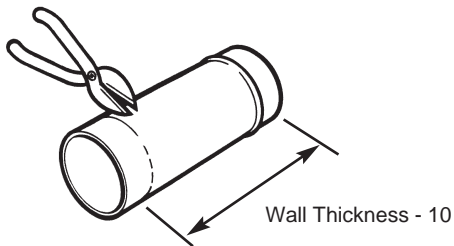

Fig. 63
5. Mark off the dimension, wall thickness - 10mm ($\frac{3}{8}$ in), measuring from the beaded end of the duct and cut off the remaining length of the duct. Ensure that the cut is square and reasonably straight (Fig. 63).